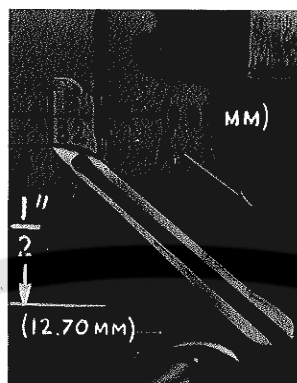

Fig. 10
Next, turn handwheel until looper is at the left end of its travel; check dimensions of upper looper point with respect to needle and throat plate (Fig. 10). If resetting is necessary, do it by moving the upper looper holder (A, Fig. 10). Figure 10 represents the dimensional setting for Styles 39500 QL and RP.
If it becomes necessary to move looper thread pull-off (AF), be sure to take up all end play in needle drive shaft before tightening. If upper looper is located so that it is higher over throat plate than recommended in Fig. 10, the purl will tend to form near top edge. If upper looper is too low, the purl will form nearer bottom edge.